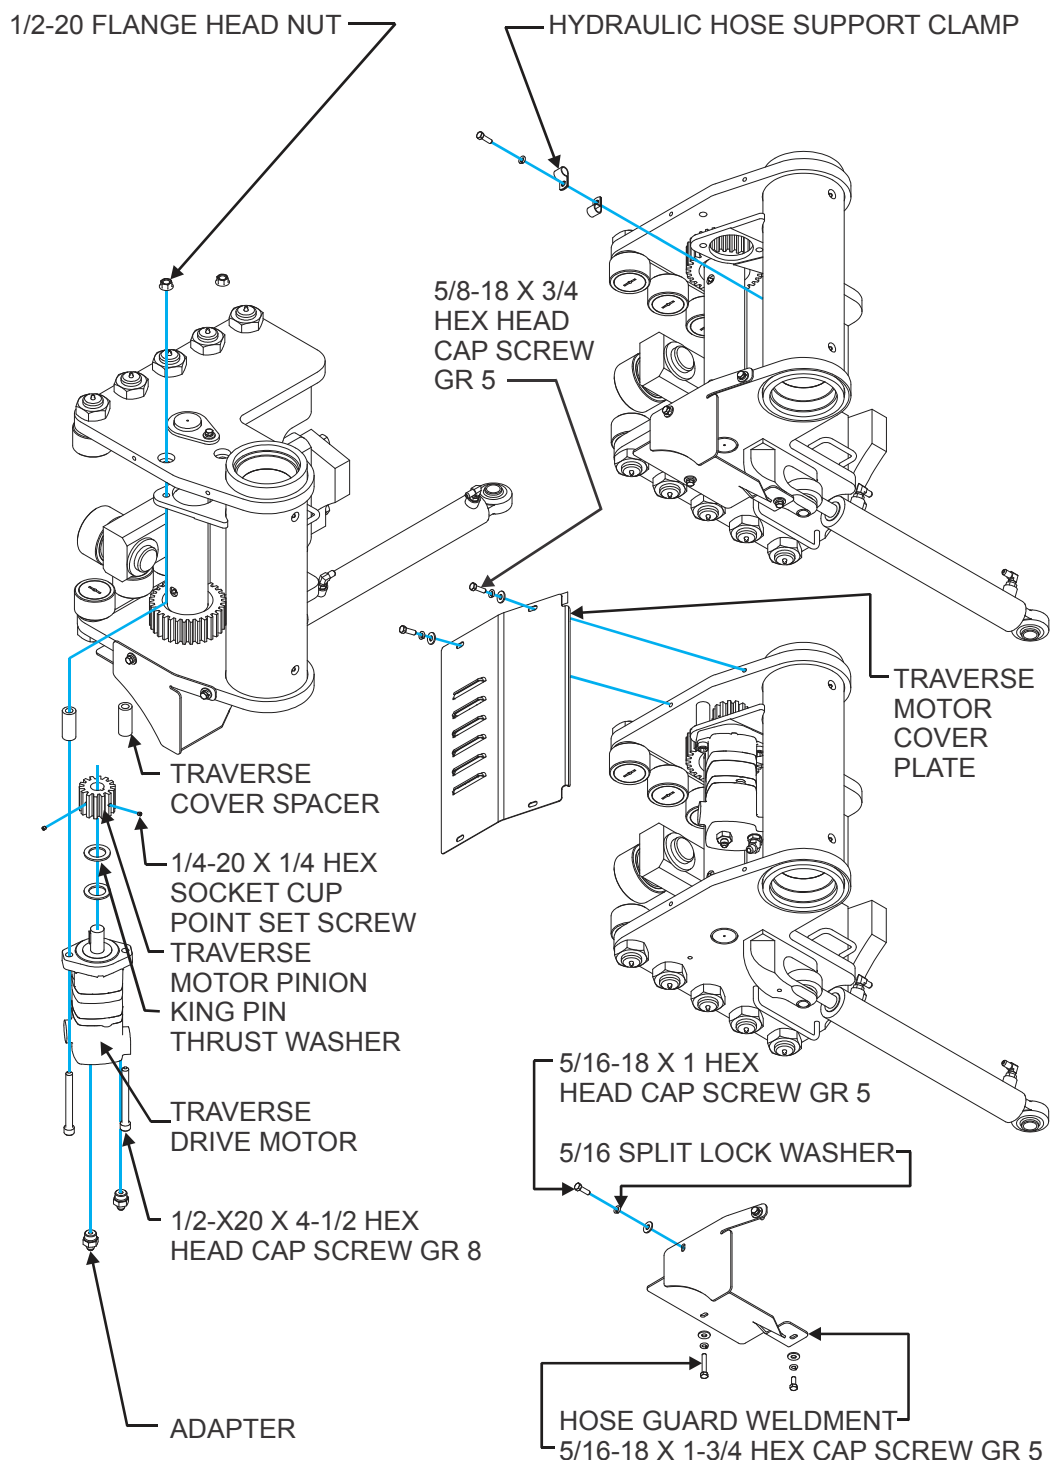

Figure 3-7: Carriage Assembly (2 of 2)
15. Remove the hose guard weldment (See Figure 3-7).
1. Remove traverse motor cover plate (See Figure 3-7).
2. Mark and unhook hydraulic hoses (2). Cap and plug cylinder and hose lines.
3. Remove 1/2-20 x 4-1/2 hex head cap screws (See Figure 3-7).